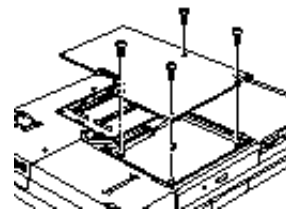

Figure 4-14 Opening the Memory Upgrade Compartment
5. Remove the 4 screws of the memory upgrade compartment. (Figure 4-14.)